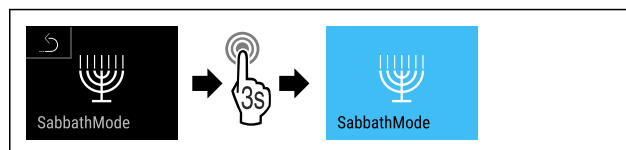

Fig. 11
- ▶ Complete the steps (see Fig. 11) .